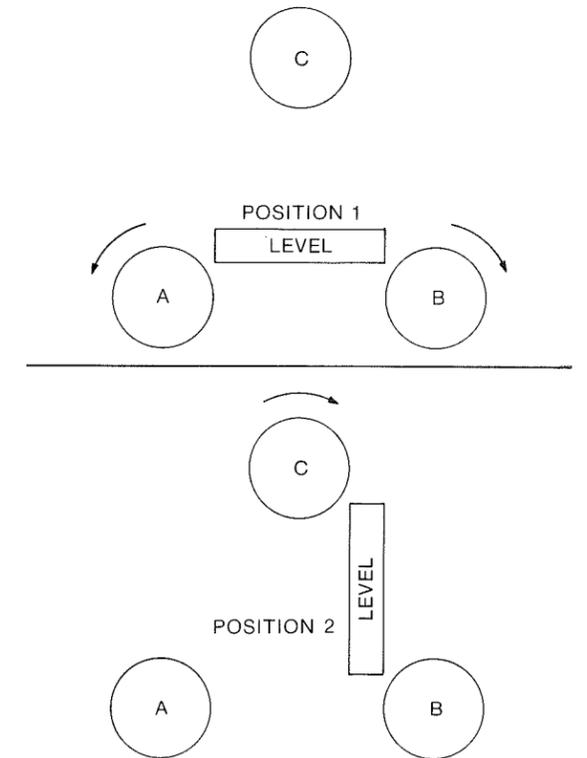

Figure 2-17. Method of Leveling with Three Leveling Screws
4. Using the handles of the Plumb Aligner Bracket, turn the Alignment Telescope so that the coincidence level is in line with any two leveling screws. (See Figure 2-17, position 1.)